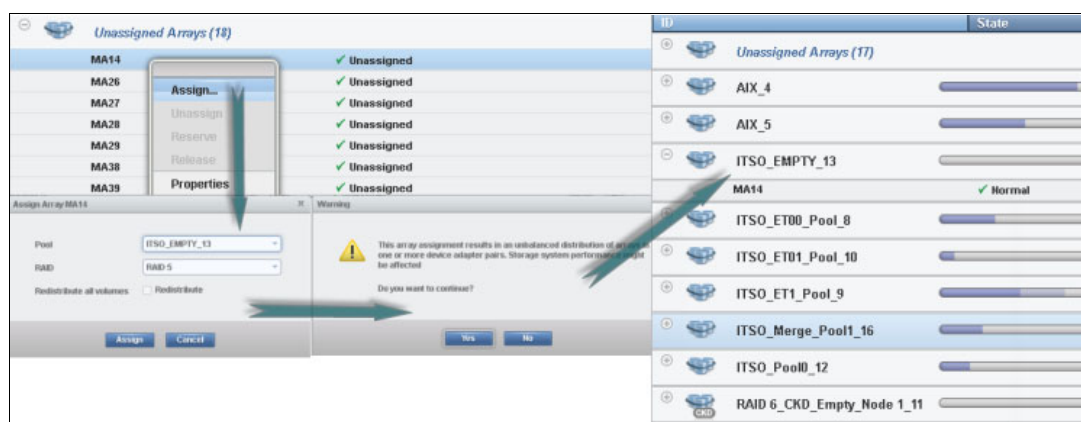

Figure 11-48 Assign an array to a single pool
- Assign one or more arrays to the single pool, as shown in Figure 11-48.